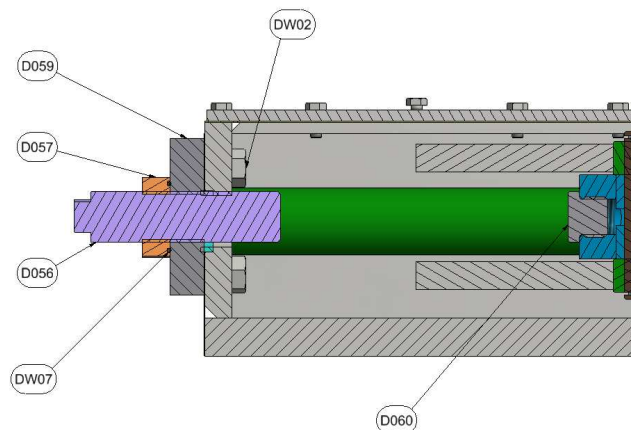

Figure 9 - Double Acting with External Stroke Adj.
7.3.1. Removing the adjustment screws (only for Double Acting actuators with external stroke Adjustment Figure 9)
8.4. Assembling of the external group adjustment (only for Double Acting actuators with external stroke adj. - option "B" (Figure 2 & Figure 9).
9.2.1. Double Acting actuator (Figure 9):